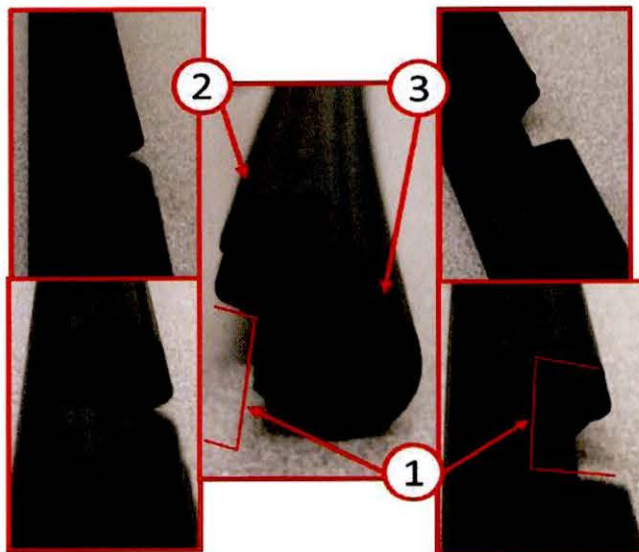

**Fig. 2 Door Seal Modification Location**
1. Open the door on the side with leak present and mark the door seal (1) approximately below the lower door panel fastener (2) or the area where water is running across the sill(Fig. 2).
2. Remove the lower section of the door seal (1) from the door seal channel below the arrows indicated on either side of (1) in (Fig. 2).